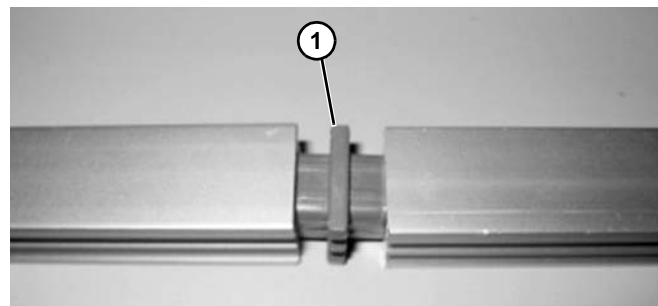

Figure 94
1. Connecting plugs (Figure 94, item 1) are pressed into two guide rail ends with soft hammer.